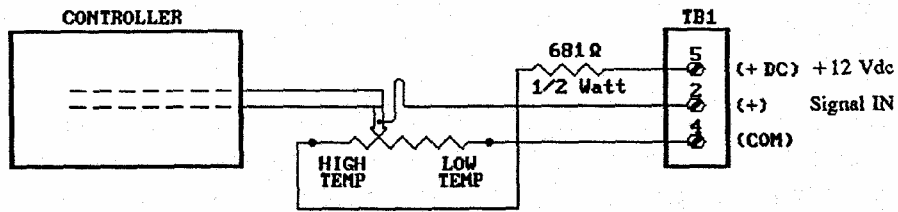

Figure 3-8. Slidewire Control
When connecting a 1Z for control by a temperature-controlled slidewire potentiometer, install a 681Ω resistor in series with the slidewire, as shown in Figure 3-8 ( $815\Omega - 135\Omega = 680\Omega$ ).
- d. Connect the controller as shown in Figure 3-8.